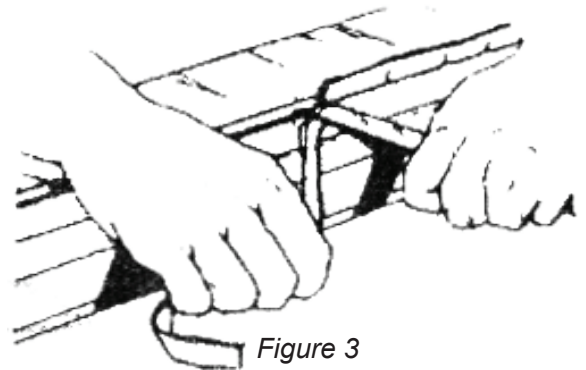

Figure 3
5. Trim the cloth on the cushion side of the featherstrip along the entire length of the featherstrip with a sharp knife as shown in Figure 3.